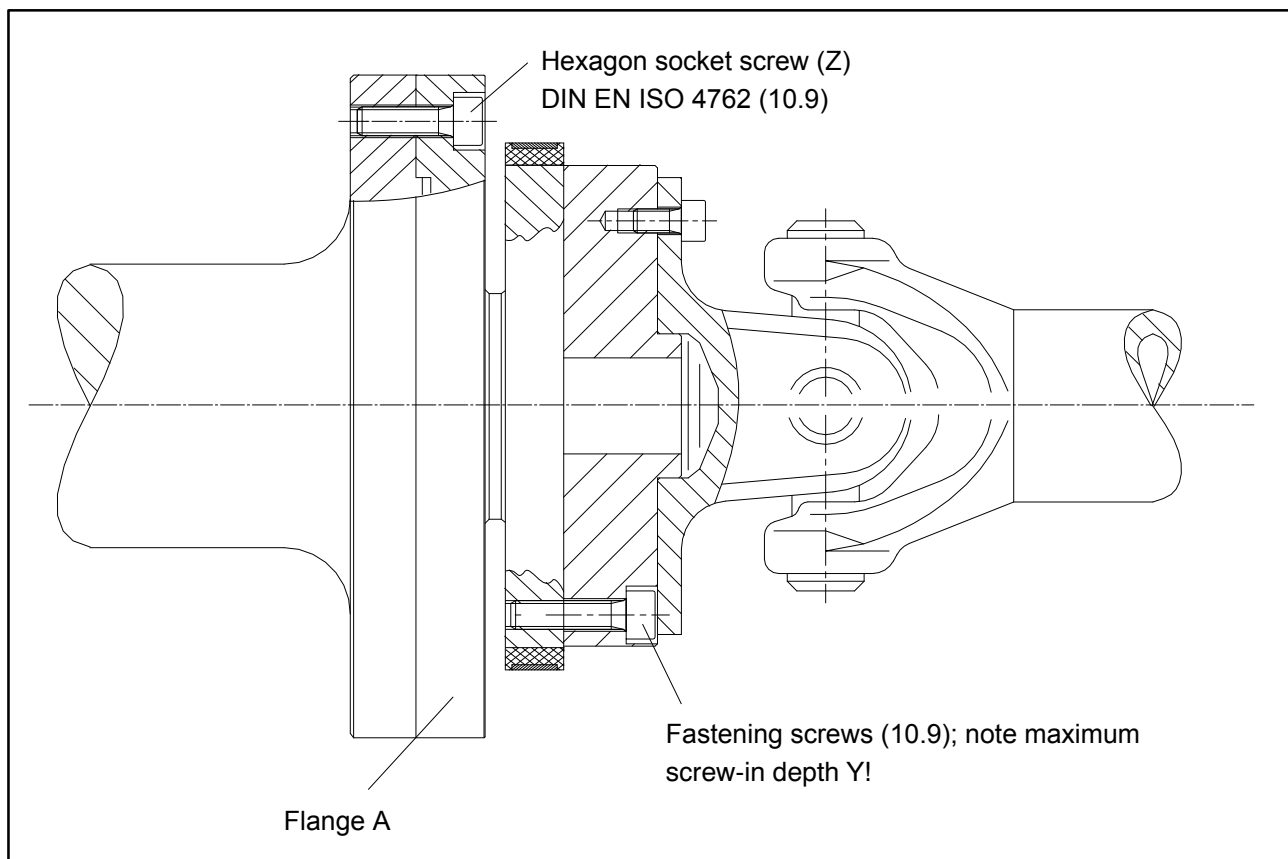

Fig 4.4: Bolted rotor connection
2. For the connection of flange A (see Fig 4.4), use **DIN EN ISO 4762 property class 10.9** hexagon socket screws of a suitable length (dependent on the connection geometry, see Table 4.1 on Page 20). We recommend DIN EN ISO 4762 socket head cap screws, blackened, smoothheaded, permitted size and shape variance in accordance with DIN ISO 4759, Part 1, product class A.